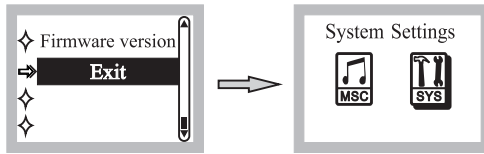

Fig. 23
(8) Exit: Return to Music & System Settings (Main Mode), Fig. 23.